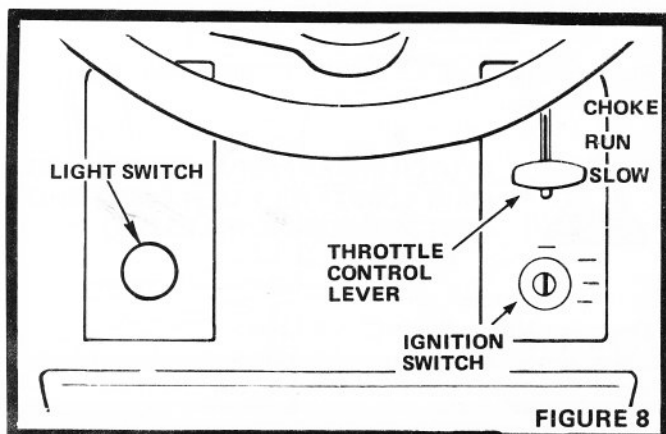

FIGURE 8
4. Move Throttle Control Lever to "CHOKE" position (Fig. 8).
5. Turn Ignition Key to "START" position until Engine starts (Fig. 8). Release key into "RUN" position.
Move Throttle Control Lever mid-way between "RUN" and "CHOKE" positions (Fig. 8). As engine warms up, move Throttle Control Lever to "RUN" position. NOTE: ALLOW ENGINE TO WARM UP FOR A FEW MINUTES BEFORE OPERATING.